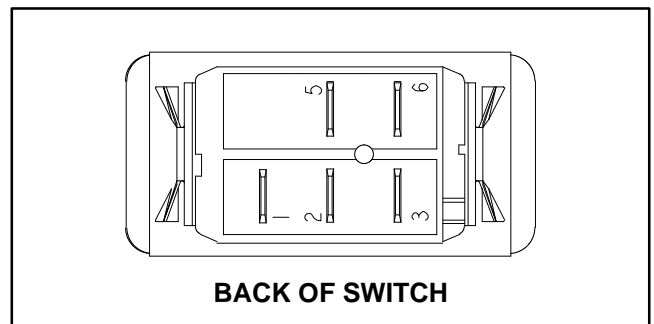

Figure 45
4. The windshield washer/wiper switch terminals are identified in Figure 45 and the switch circuits are shown in Figure 46. With the use of a multimeter (ohms setting), the switch functions may be tested to determine whether continuity exists between the various terminals for each switch position. Verify continuity between switch terminals.